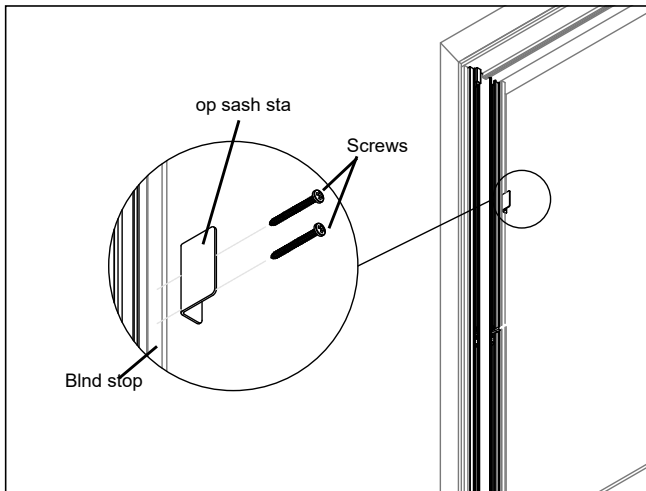

Figure 4
2. Place the top sash stays on the blind stop of the frame slightly above the check rail. See figure 4.